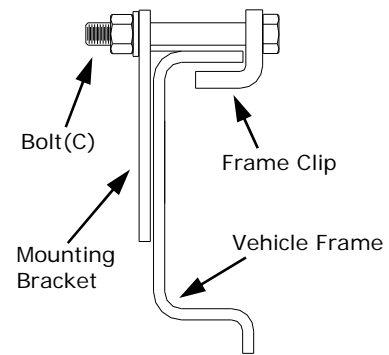

Figure 4
3. Using the frame clips, install the 1/2" x 4" bolts in the top, forward predrilled hole and rear predrilled hole. Secure with a lock washers and nuts. See Figures 4 & 5©, Pg. 13.